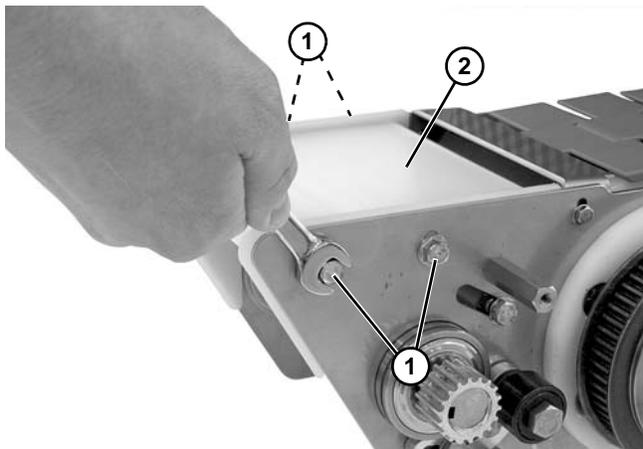

Figure 64
9. Remove four screws (Figure 64, item 1) holding wear bar assembly (Figure 64, item 2) onto power transfer.